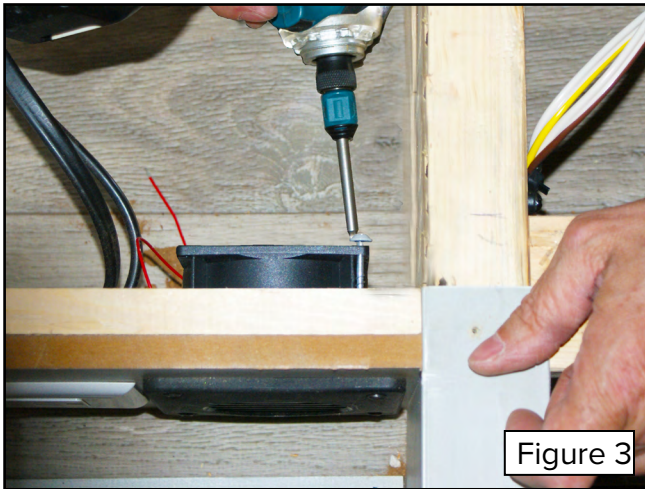

Figure 3
3. Position one vent fan (P/N 116590) inside the bed base cavity behind one of the existing vent covers (Figure 3). Note the air flow orientation of the fan (Figure 1c, Page 3).